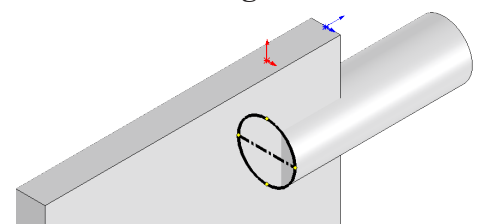

Fig. 17
Step 5. Sketch **horizontal centerline the two quadrants points of circle**, **Fig. 17**.